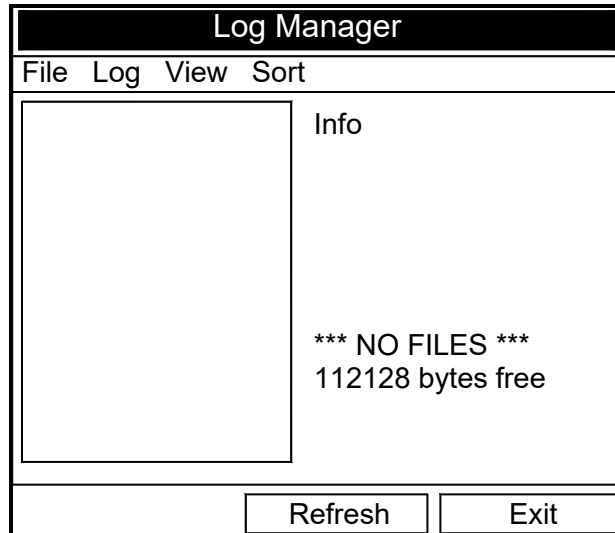

Figure 72: Log Manager Window
The Log Manager offers users a way to check the status and memory size of all the logs currently pending, running or finished. To select Log Manager, scroll to the Log Manager entry on the Logging Menu and press **[ENTER]**. If no logs have been entered, the screen appears similar to Figure 72 below. If logs have been entered, the right section of the screen supplies information for a log highlighted on the left. Use the **[▼]** and **[▲]** arrow keys to scroll to a particular log and display information pertaining to that log.
1. First, select the log you wish to copy in the Log Manager (see Figure 72 on page 64).
1. First, select the log you wish to rename in the Log Manager (shown in Figure 72 on page 64).
1. First, select the log you wish to delete in the Log Manager (shown in Figure 72 on page 64).
1. First, select the log you wish to pause in the Log Manager (shown in Figure 72 on page 64).
1. First, select the log you wish to restart in the Log Manager (shown in Figure 72 on page 64).